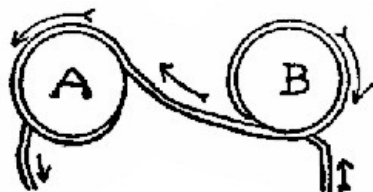

Fig. 60.
**115. Method of Joining Coils.** Fig. 60. If *A* and *B* represent the two cores of a horseshoe electro-magnet, the coils must be joined in such a manner that the current will pass around them in opposite directions, in order to make them unlike poles. The current is supposed to pass around *B*, Fig. 60, in the direction taken by clock hands, while it passes around *A* in an anti-clockwise direction. The inside ends, § 123, of the coils may be twisted together, or fastened under a screw-head. In Fig. 60 one coil is shown to be a continuation of the other.